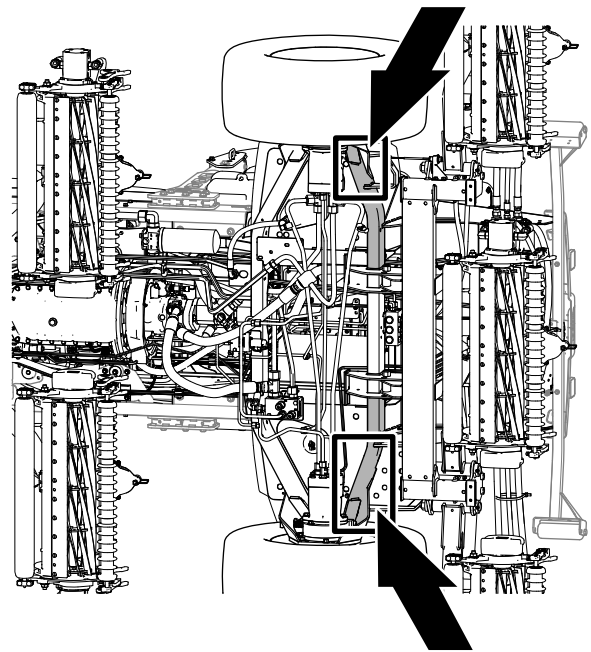

Figure 54
- Front of the machine—at the frame of the machine, forward of the wheel-drive motors (Figure 54).